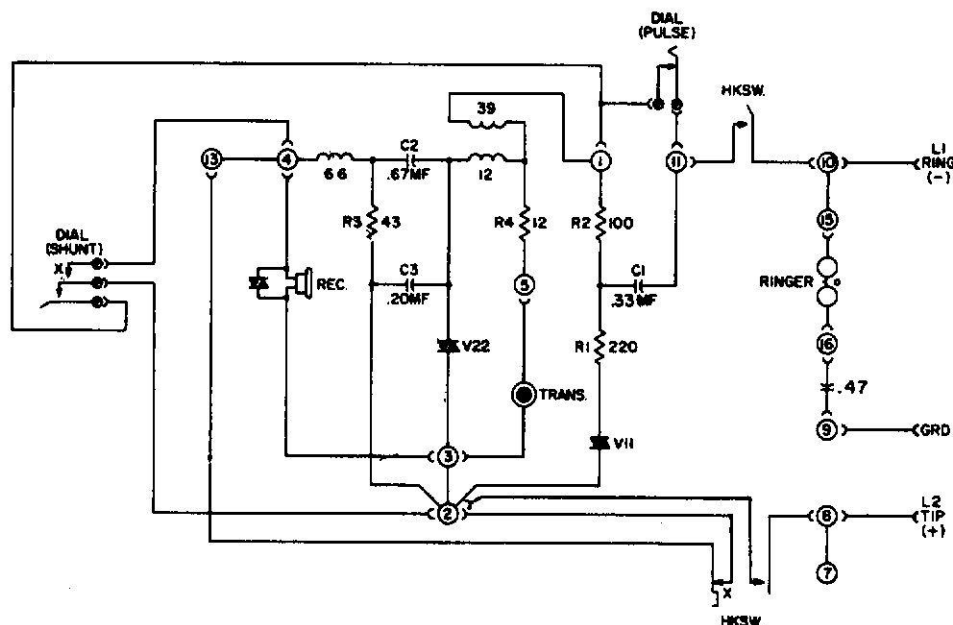

Figure 7. Schematic of Specialty Telephone Set Equipped With LM-625 Kit.
3.19 Terminate the line cord at the connecting block. With the cord conductors and station wire connected on a color-for-color basis, the set is wired as a ring party station. For tip party service, reverse the red and green line cord conductors at the connecting block. At a bridged-ringing station, connect the yellow line cord conductor together with the green conductor at terminal L2. At present the LM-625 kit is not arranged for tip party ANI service. For a schematic drawing, see Figure 7.